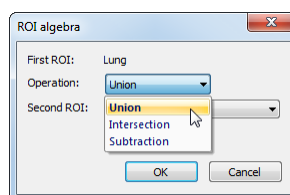

Figure 176 – ROI algebra dialog, defining the algebra operation
3. Select algebra operation in the **Operation** combo box (see Figure 176).